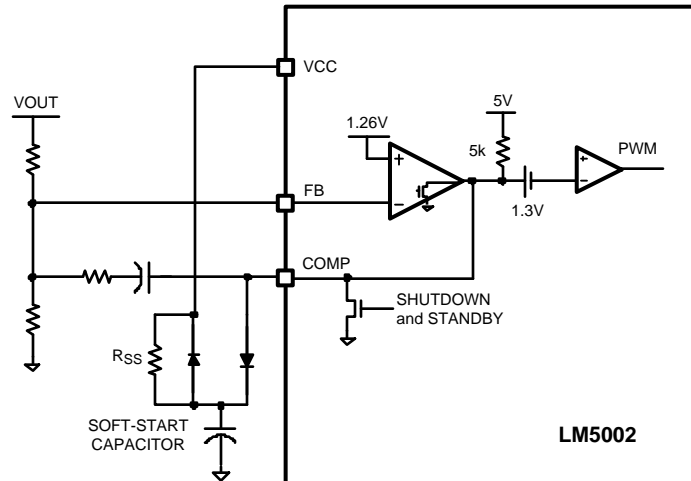

Figure 20. Soft-Start
Internal Thermal Shutdown circuitry is provided to protect the IC in the event the maximum junction temperature is exceeded. When the 165°C junction temperature threshold is reached, the regulator is forced into a low power standby state, disabling all functions except the VCC regulator. Thermal hysteresis allows the IC to cool down before it is re-enabled. Note that since the VCC regulator remains functional during this period, the soft-start circuit shown in Figure 20 should be augmented if soft-start from Thermal Shutdown state is required.
Soft-start (SS) can be implemented with an external capacitor connected to COMP through a diode as shown in Figure 20. The COMP discharge MOSFET conducts during Shutdown and Standby modes to keep the COMP voltage below the PWM offset (1.3V), which inhibits PWM pulses. The error amplifier will attempt to raise the COMP voltage after the EN pin exceeds the 1.26V standby threshold. Because the error amplifier output can only sink current, the internal COMP pull-up resistor (~5 k Ω) will supply the charging current to the SS capacitor. The SS capacitor will cause the COMP voltage to gradually increase, until the output voltage achieves regulation and FB assumes control of the COMP and the PWM duty cycle. The SS capacitor continues charging through a large resistance, R_{SS} , preventing the SS circuit from interfering with the normal error amplifier function. During shutdown, the VCC diode discharges the SS capacitor.